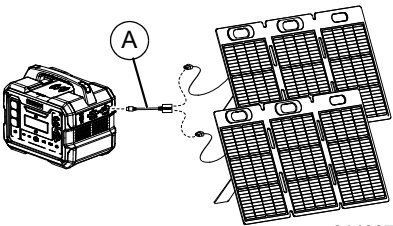

Figure 1-3. Parallel Solar Panel Connection
NOTE: See Figure 1-3. Multiple solar panels, up to four (4), may be connected in parallel with parallel cable (A) included.